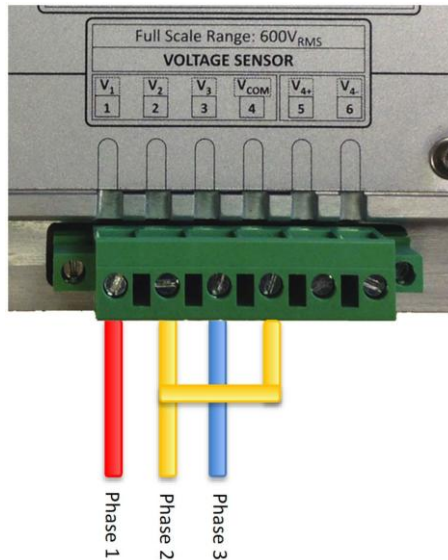

Figure 30: VECTO 3 3-wire delta connection
- 1) Connect Phase 1,2 and 3 to Voltage Inputs 1-3 as shown in the Figure 30.